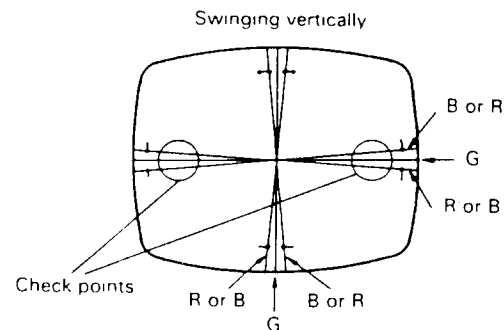

Figure 6
- (1) Observe the horizontal lines at the center of the screen. If the red and blue horizontal lines have shifted when crossing the green horizontal lines, as shown in Figure 6, converge by vertically swinging the yoke. Then confirm that the vertical lines at the center of the screen are also converged.